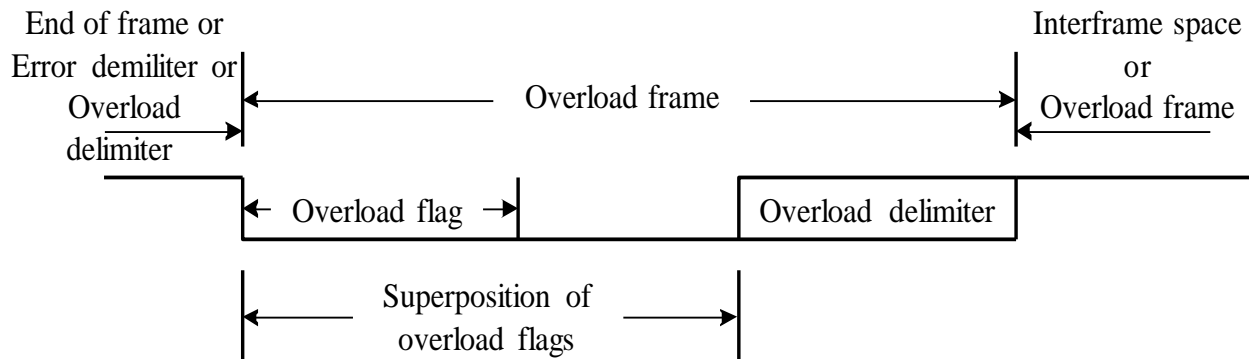

Figure 13.9 Overload frame
- ▶ Format of the overload frame is shown in Figure 13.9.